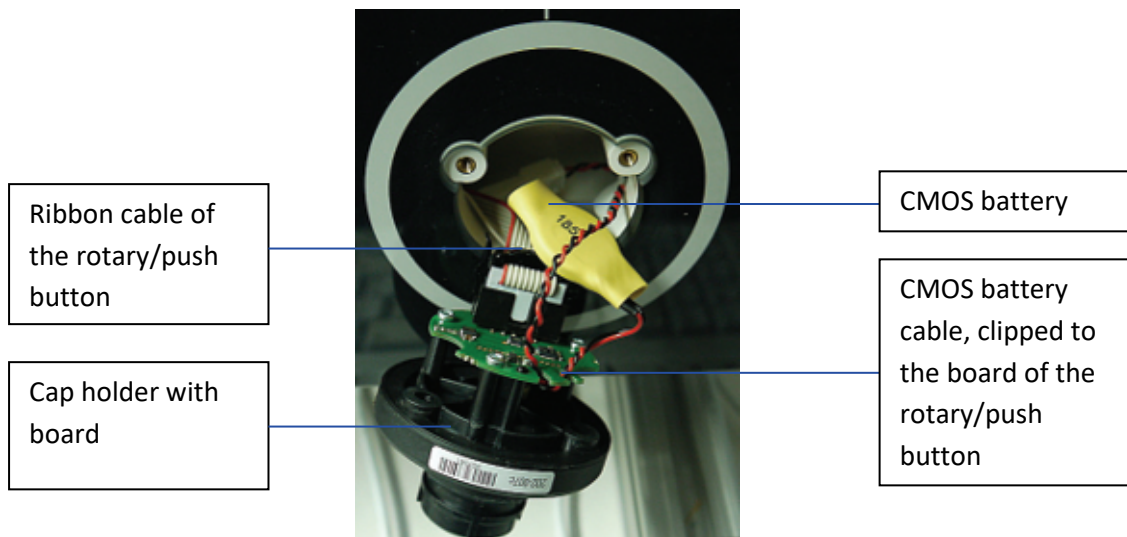

Fig. 48: Rotary/push button and CMOS battery, pulled out of the housing
4. Remove the battery cable from the board of the rotary/push button (see Fig. 48)